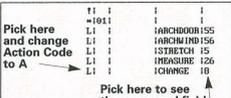

Figure 2
1. Move the cursor to the Command field, shown in Figure 2, and pick at the beginning of this field, right after the symbol (I).